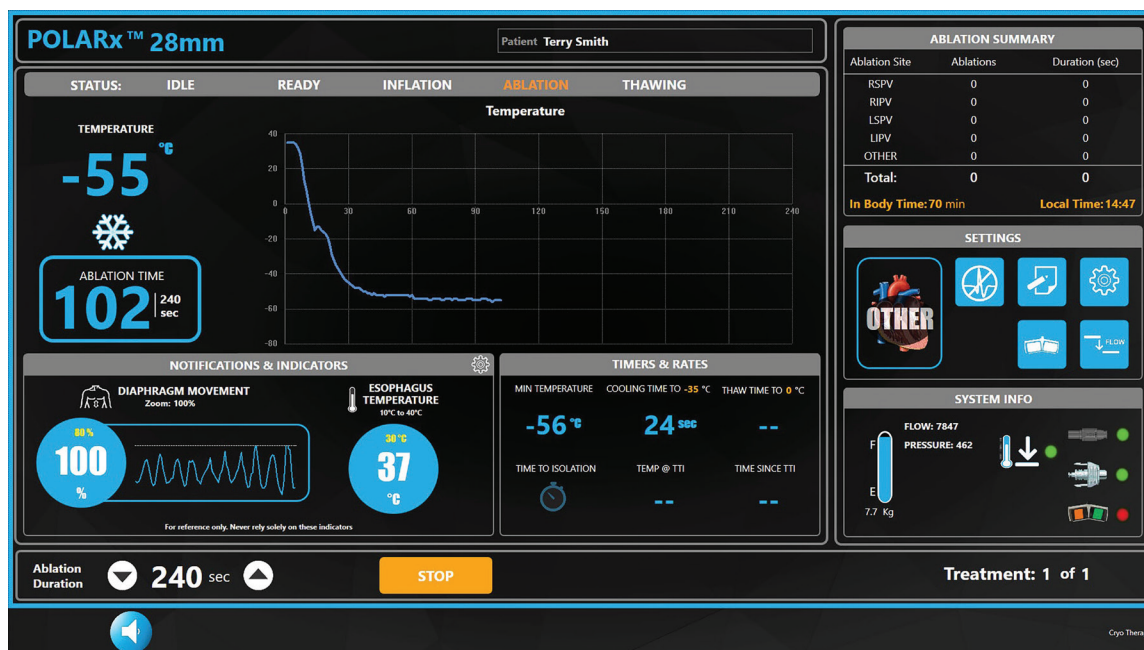

Figure 16. Therapy screen—ablation state
5. When the system is in the **ABLATION** state, the following indicators will be visible in the Therapy screen (Figure 16):